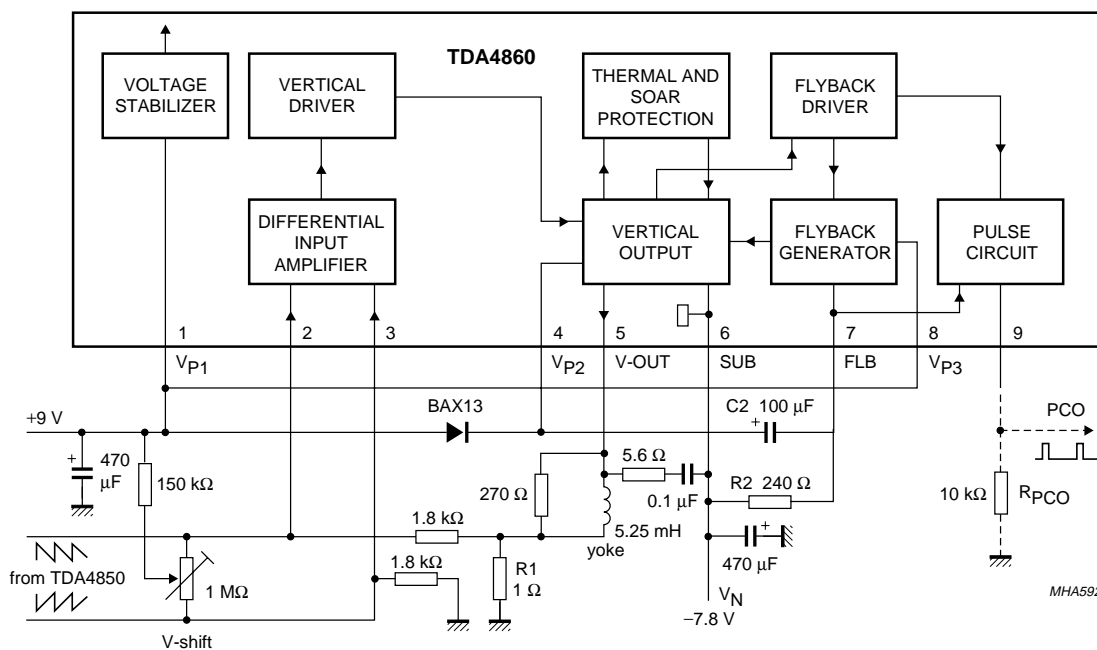

Fig.5 Application for flyback voltage generation by doubling the supply voltage.
2. The flyback voltage is generated by doubling the supply voltage (see Fig.5). The 100  $\mu$ F capacitor C2 between pins 4 and 7 is charged up to VP1 during scan, using the external diode and the resistor R2. The cathode of the capacitor C2 is connected to the positive rail during flyback. Thus, the flyback voltage is twice the supply voltage.